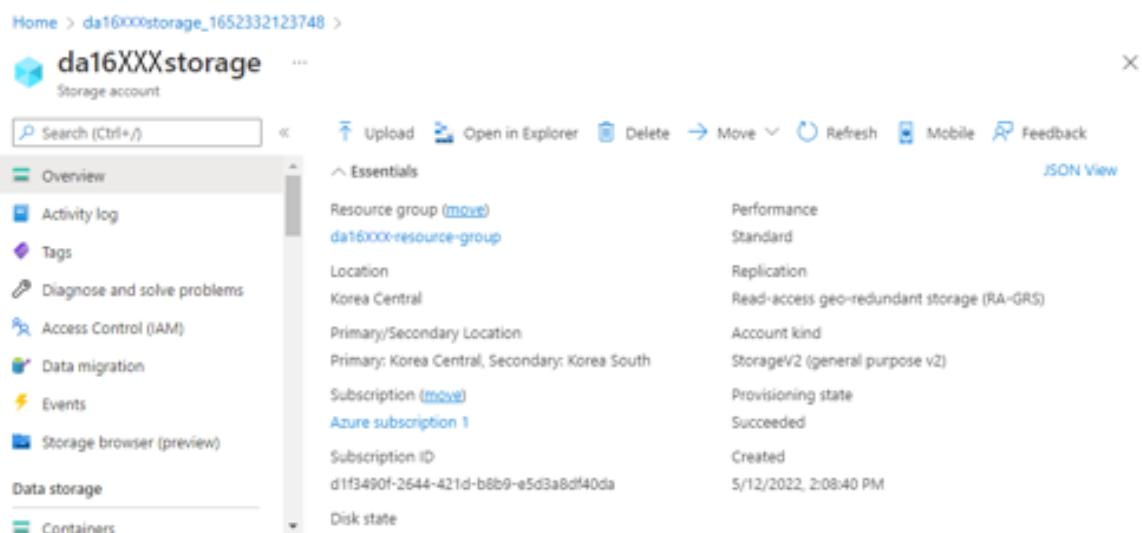

Figure 66: Created Storage Account
6. The created storage account is as shown in Figure 66.